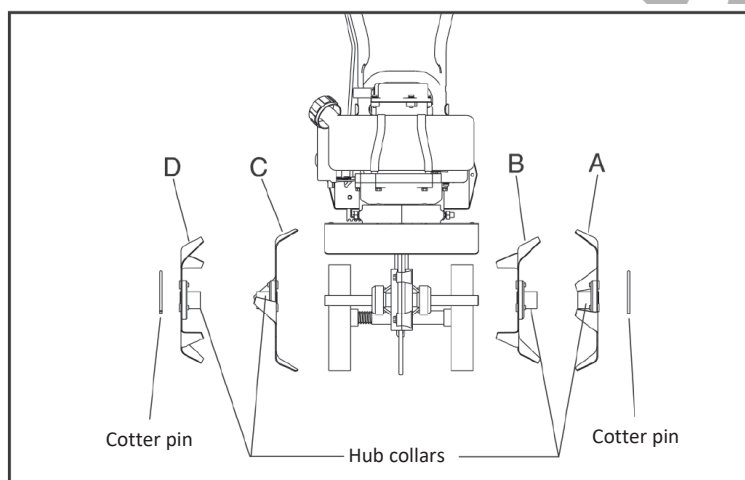

Figure 3 (Frontal View)
2. Slide the outside tine "A" and tine "D" onto each end of the shaft next. The tines should be installed in the correct order so that they are positioned left to right A, B, C, D, as viewed from the user's position on the mini cultivator. Make sure that the hub collars on both the right and left pairs of tines face each other so that there is adequate spacing between the tine blades. (See Figure 3.)